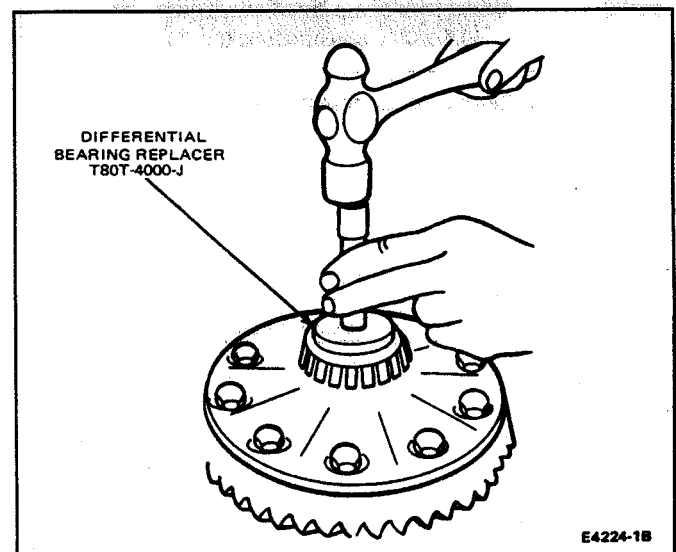

FIG. 41 Differential Side Bearing Installation
7. Install the bearing cone on the hub of the ring gear side of the differential case. Drive the bearing onto the hub using Differential Side Bearing Replacer, T80T-4000-J as shown in Fig. 41.
11. Install bearing cone on the pinion side of the differential case with special Tools T80T-4000-J, Differential Bearing Replacer (Fig. 41). Place the Pinion Bearing Cone Replacer, T53T-4621-C, on the ring gear bearing to prevent damage.